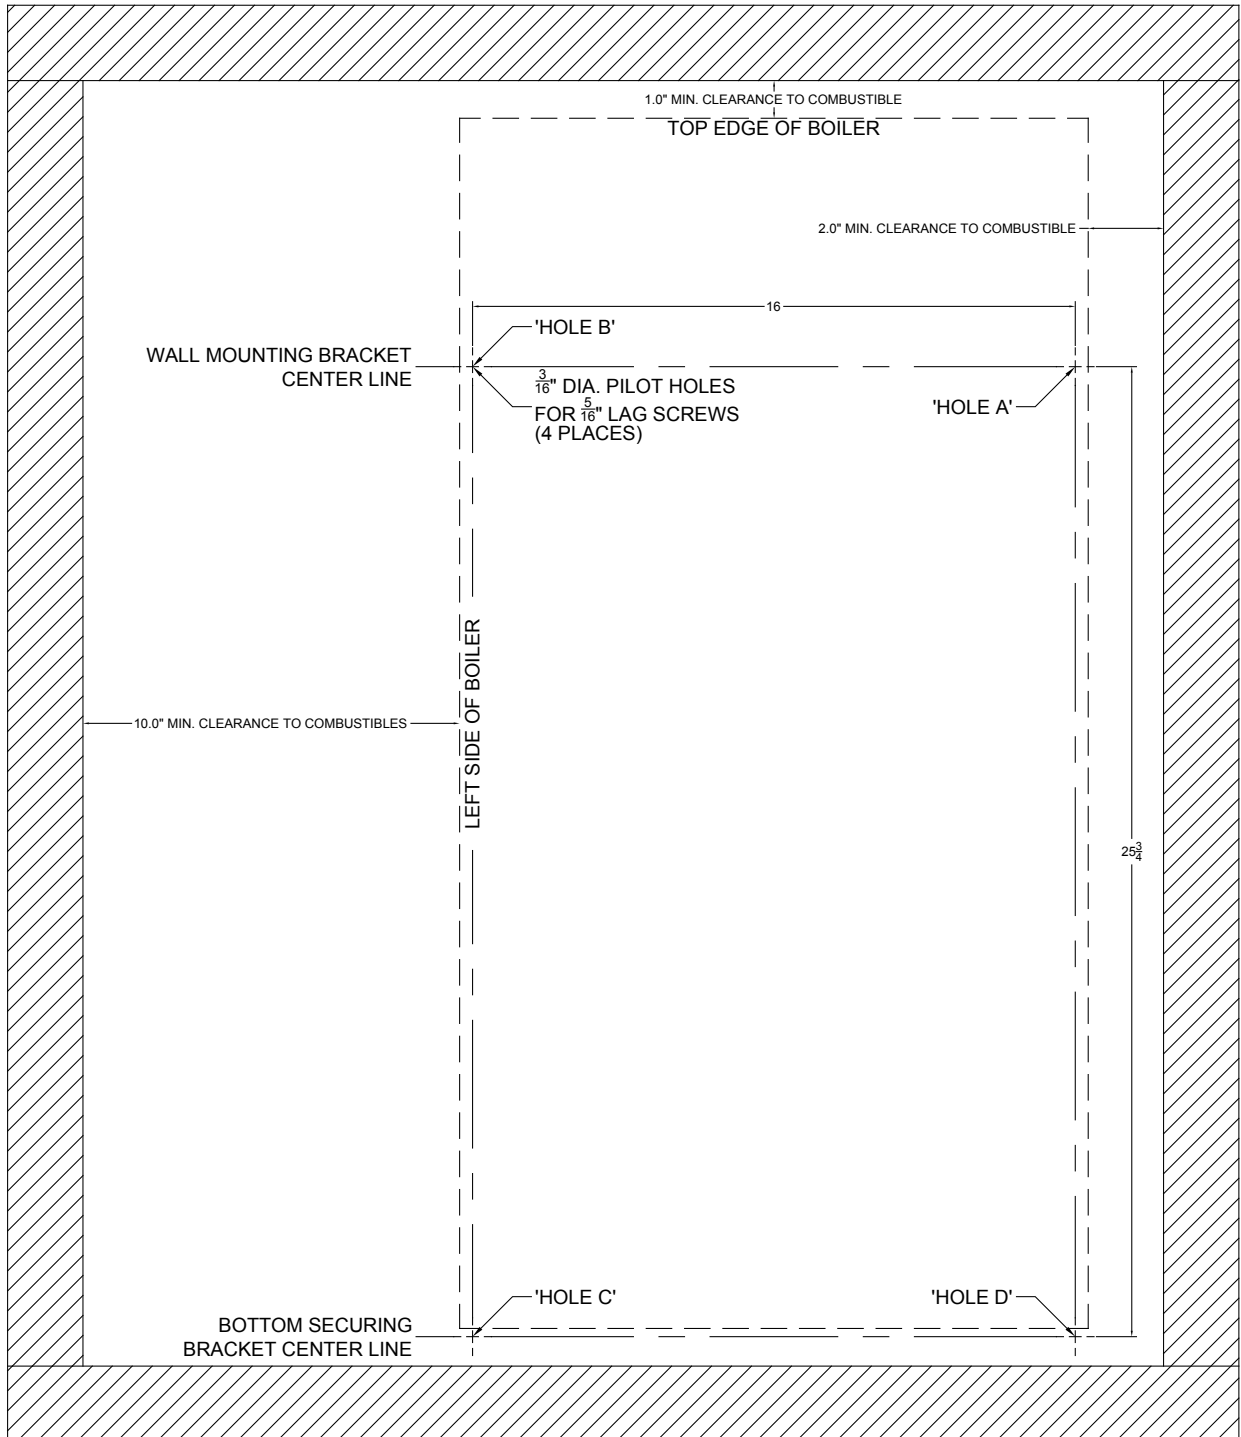

Figure 3-3: Wall Mounting Hole Location / Layout
- f. Once a suitable location has been selected for the boiler, and any needed modifications have been made to the wall, use Figure 3-3 to locate and layout holes “A” and “B”. These holes must be positioned on mounting stud centers if the boiler is installed on a framed wall. Make sure that the horizontal centerline of these holes is level. Holes “C” and “D” may also be drilled at this time, or after the boiler is hung on the wall. If the 5/16 x 2 in. lag screws are used, drill 3/16 in. pilot holes.